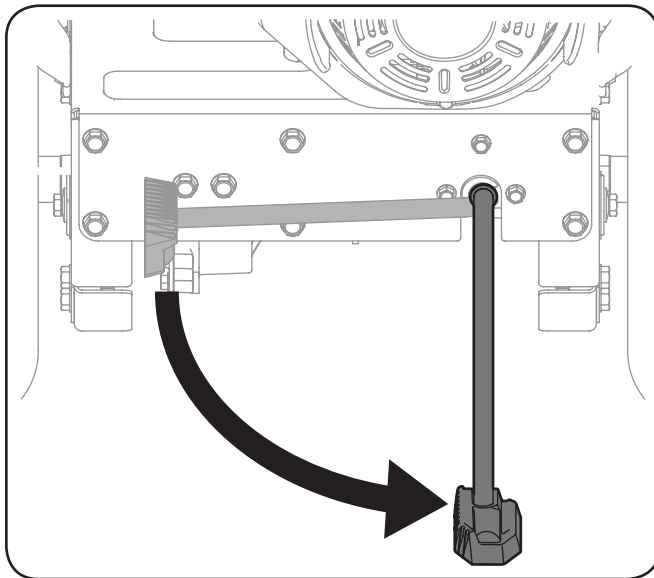

Figure 5-9
3. With both hands on the handle grips, move the Latch'n Lock™ kickstand into the unlock (Down) position, see Figure 5-9.